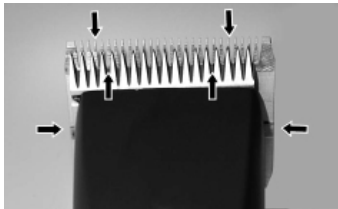

Fig. 22
To receive good clipping results and to increase the durability of the clipper and the clipperhead, it is necessary to apply a thin oil coat between top and bottom blade (fig. 22).
- ▶ Lubricate the blades sufficiently during the clipping (at least every 15 minutes), so that they do not drain (fig. 22).
The blades must be oiled before, during and after every use. When the blades of the clipper are leaving stripes or are running with reduced speed, this is a signal that oil is required. Place a few drops of oil ahead and laterally on the clipper blades (see arrows in fig. 22). Wipe off the excessive oil with a smooth, dry cloth. Lubrication sprays do not have sufficient oil for a good lubrication, but serve for cooling the blades. Immediately change damaged or created blades to avoid injuries.